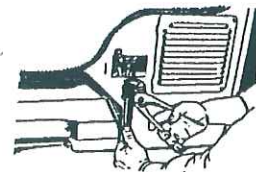

Figure A11
4. Using the adjustable pliers, squeeze the strain relief (Figure A11). In the same motion, pull out on the service cord until it is removed from the dryer back panel.